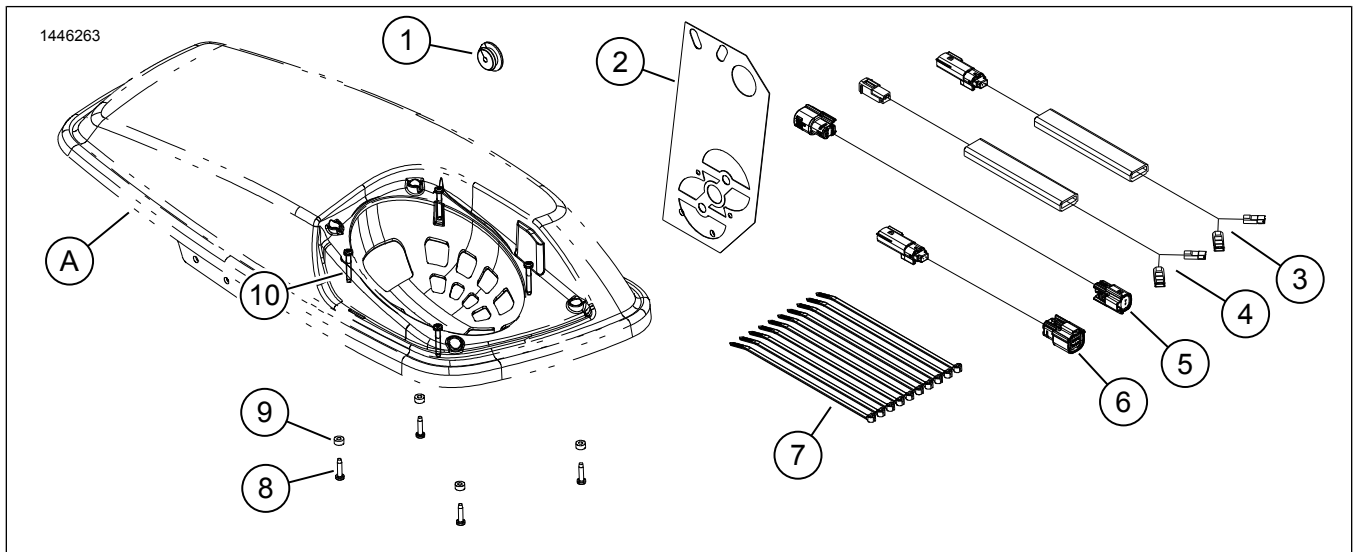

Figure 15. Service Parts, Fairing Lower Speakers
1. Figure 15 Use speaker hardware screws and grommets (8, 9, 10) to install speakers.